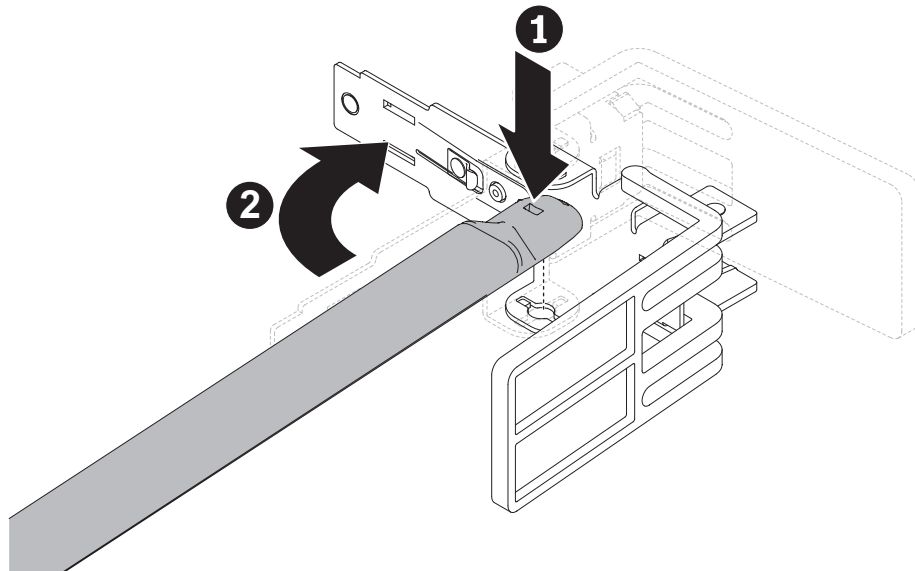

Figure 34. Connecting the cable management support bar to the stop bracket
4. Connect the other end of the support bar to the stop bracket, as shown in Figure 34.